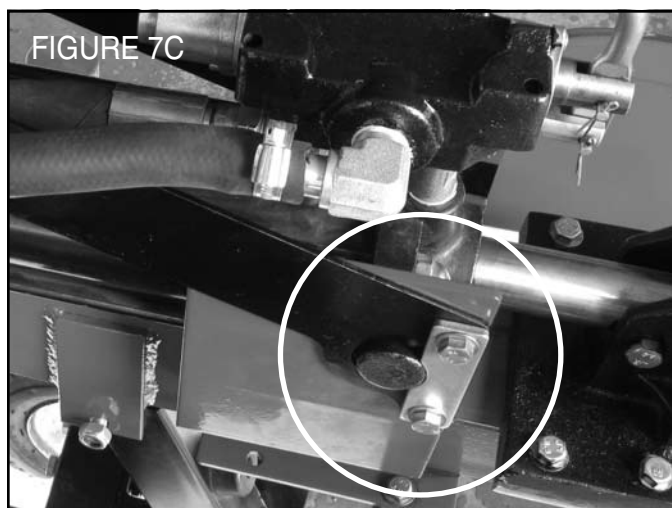

FIGURE 7C
**(European Version)** Slide ram assembly, including flow valve mount support, to rear bracket and attach with (4) 20mm bolts, lock nuts, and (2) retainer plates. SEE FIGURE 7C.